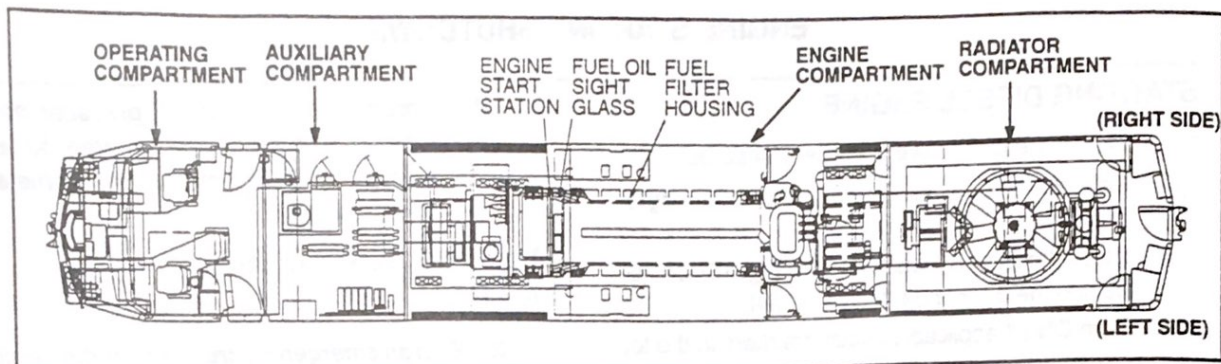
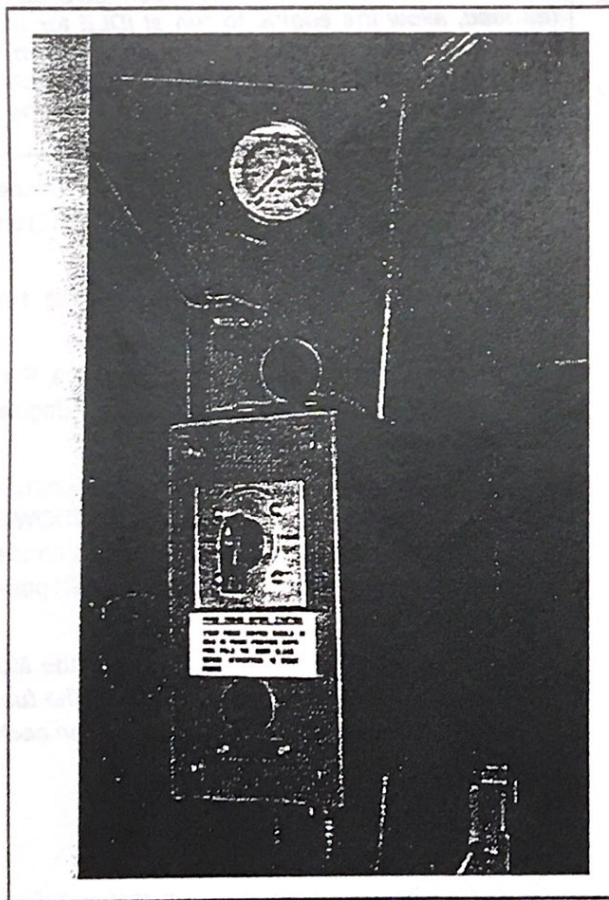
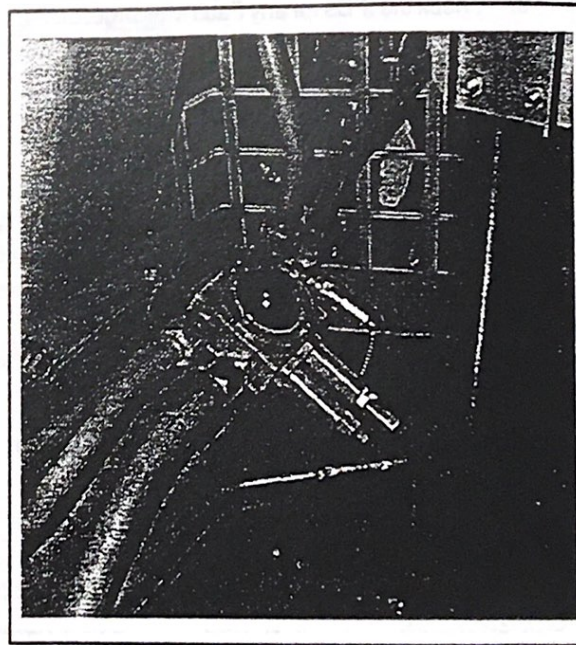

FIG. 69. ENGINE START EQUIPMENT LOCATION. E-42792.
FIG. 70. ENGINE START STATION. E-42793.
FIG. 71. FUEL OIL SIGHT GLASS. E-42794.
11. At the Start Station (Fig. 70), located near the engine (Fig. 69), turn the Start switch to the PRIME position. Hold until solid fuel flow with no bubbles shows in the sight glass (Fig. 71) and fuel pressure gauge shows approximately 50–55 psig.
4. Press the Engine Stop pushbutton (Item 9, Fig. 12) on the Engine Control panel or at the Engine Start Station (Fig. 70).